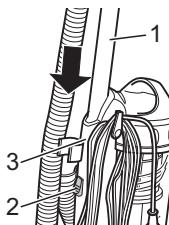

Fig.7
3. Push the button to release the telescopic tube (Fig. 7/2) and pull the telescopic tube (Fig. 7/1) out of the telescopic tube mount (Fig. 7/3).